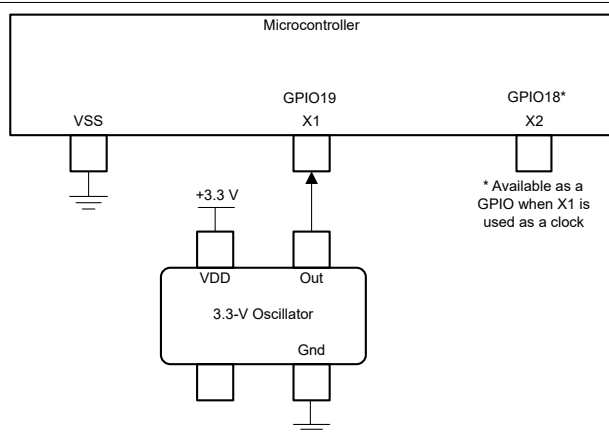

Figure 6-10. Single-ended 3.3-V External Clock
- A single-ended 3.3-V external clock. The clock signal should be connected to X1, as shown in Figure 6-10, with the XTALCR.SE bit set to 1.